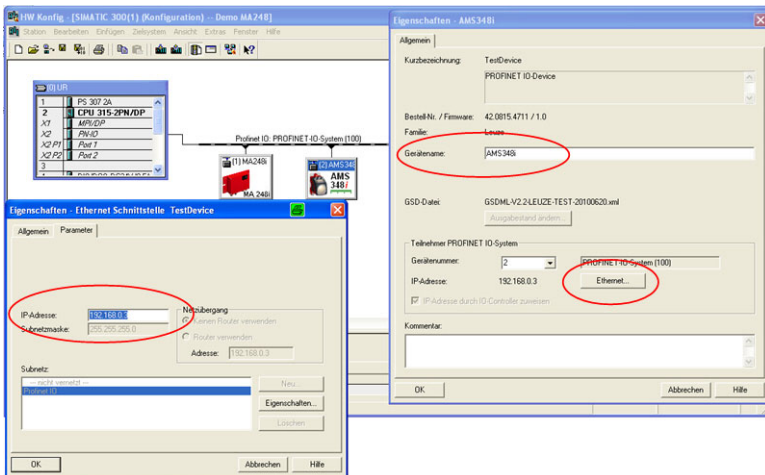

Figure 9.9: Assign unique device name in the properties window
- Assigning the device names to the configured IO devices(see figure 9.9)